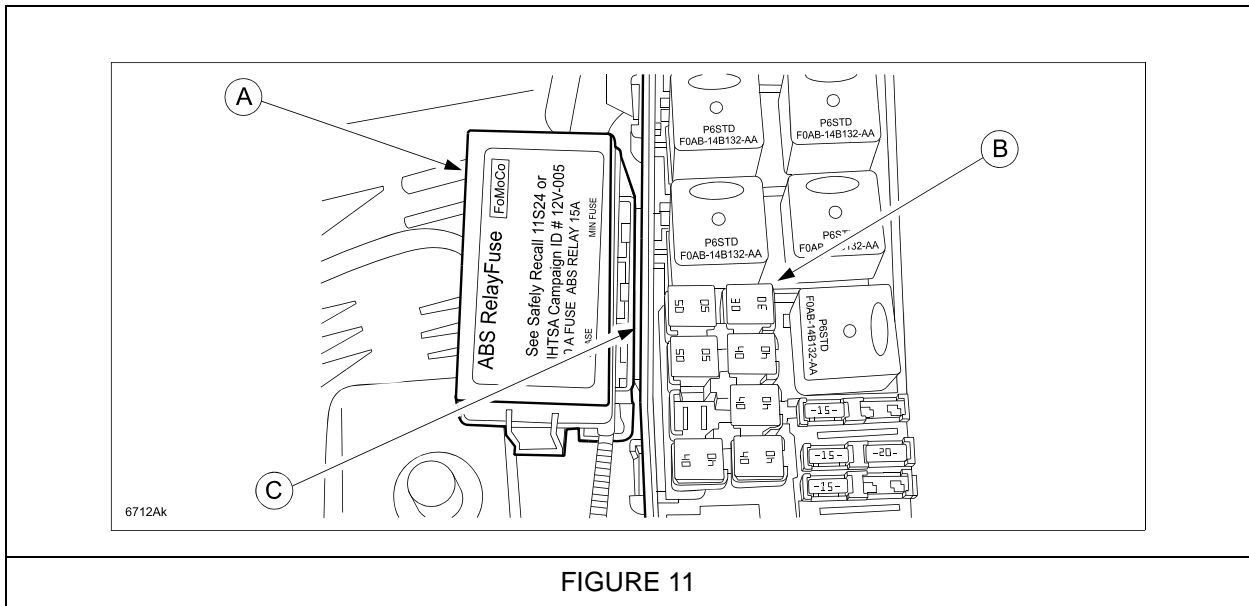

FIGURE 11
- Remove the protective film from the adhesive tape located on the side of the relay housing. Align the top edge of the adhesive tape to the upper edge of the PDB housing (C). Push the relay housing (A) firmly against the area with the dried adhesive promoter of the PDB (B). See Figure 11.